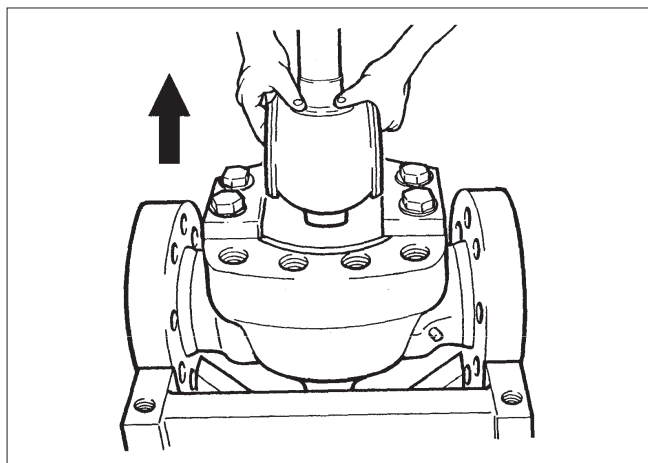

Fig. 12 Pulling out the ball
- Pull out the ball and seats with the ball in the 'Open' position. See Fig. 12. Lower the ball on a soft surface.